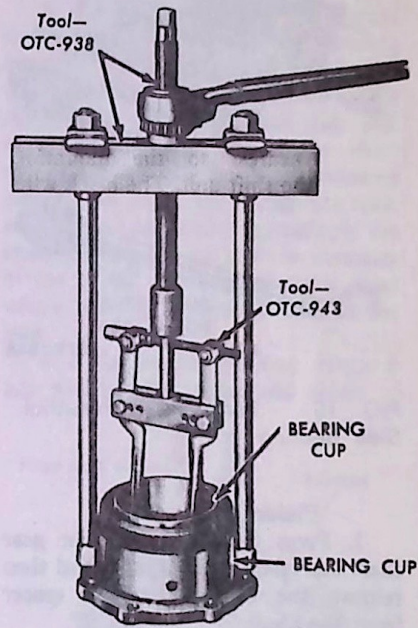

FIG. 15 Removing Cross Shaft Bearing Cup
shown in Fig. 15. To operate the cup in the bearing cap remaining in the differential carrier, tap the cap out of the carrier about 1/4 inch with a soft drift against the inside of the cap. Then remove it from the carrier, using the same procedure for removing the other cap.
3. Remove the rear bearing cup from the pinion cage with the type of puller shown in Fig. 15.